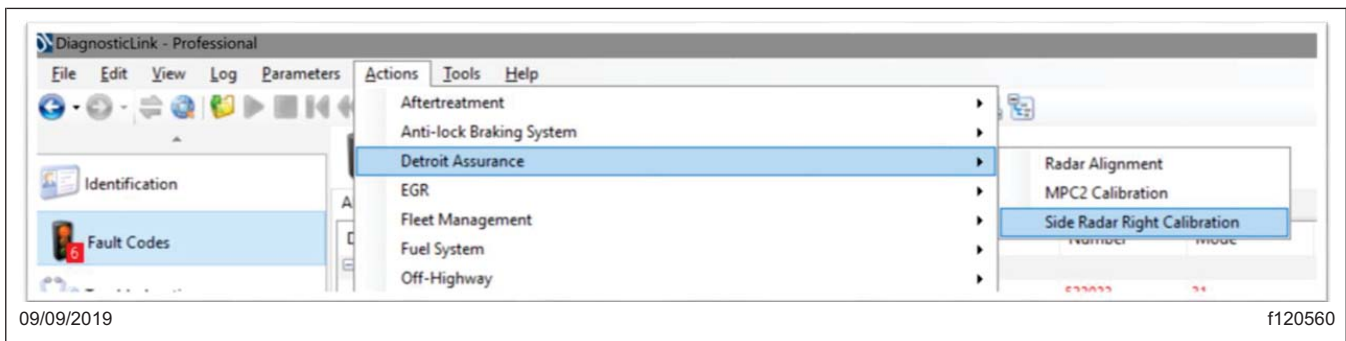

Fig. 29, Selecting Side Radar Right Calibration
- In DiagnosticLink, select 'Actions' from the menu bar, then select 'Detroit Assurance,' and 'Side Radar Right Calibration.' See Fig. 29.